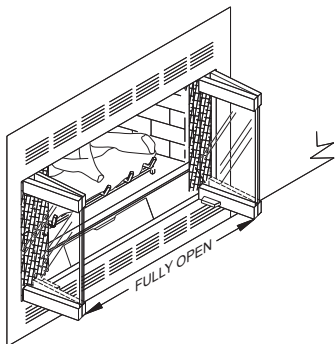

Figure 10: Bi-Fold Doors Fully Open
- Glass doors should be operated in the fully open position only (see Figure 10).